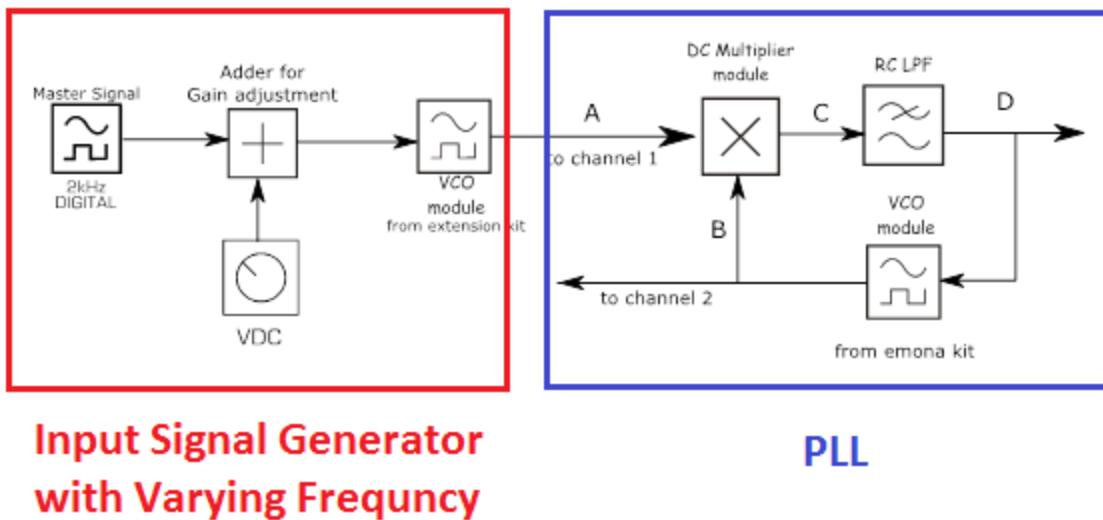

Figure 2- Block Diagram to Observe PLL Locking
In this section, we will be observing how a PLL works. See Figure 2. It consists of two major groups of blocks, one is the PLL circuit and the other is the one that generates signal with varying frequency. **The PLL uses the VCO present on the Emona Kit. The VCO for the signal generator block is taken from the extension board, plugged onto the Emona kit.**
As you can deduce from Figure 2, if we feed a square wave signal with peak to peak voltage of + V to $-V$ to the **VCO in the input signal generator block**, the input signal to the PLL will have a sinusoid whose frequency switches between two values, based on the initial settings of the VCO frequency and the VCO gain. We expect the PLL to track these changes in the input frequency and at Point B in the Figure 2, one should have a signal that closely follows the signal at Point A.
- Complete the connections as in Figure 2.